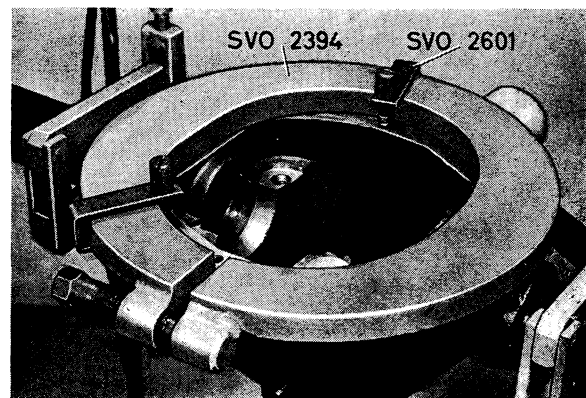

Fig. 4-136. Expanding drive pinion carrier
6. Fit tool SVO 2394 in the holes in the drive pinion carrier as shown in Fig. 4-136. Fit the tool with retainers SVO 2601. Tension the tool until it fits exactly in the holes in the carrier. Then tension the bolt a further 3—3½ turns. Lift out the differential carrier with crown wheel. Tool SVO 2337 can be used for this purpose.